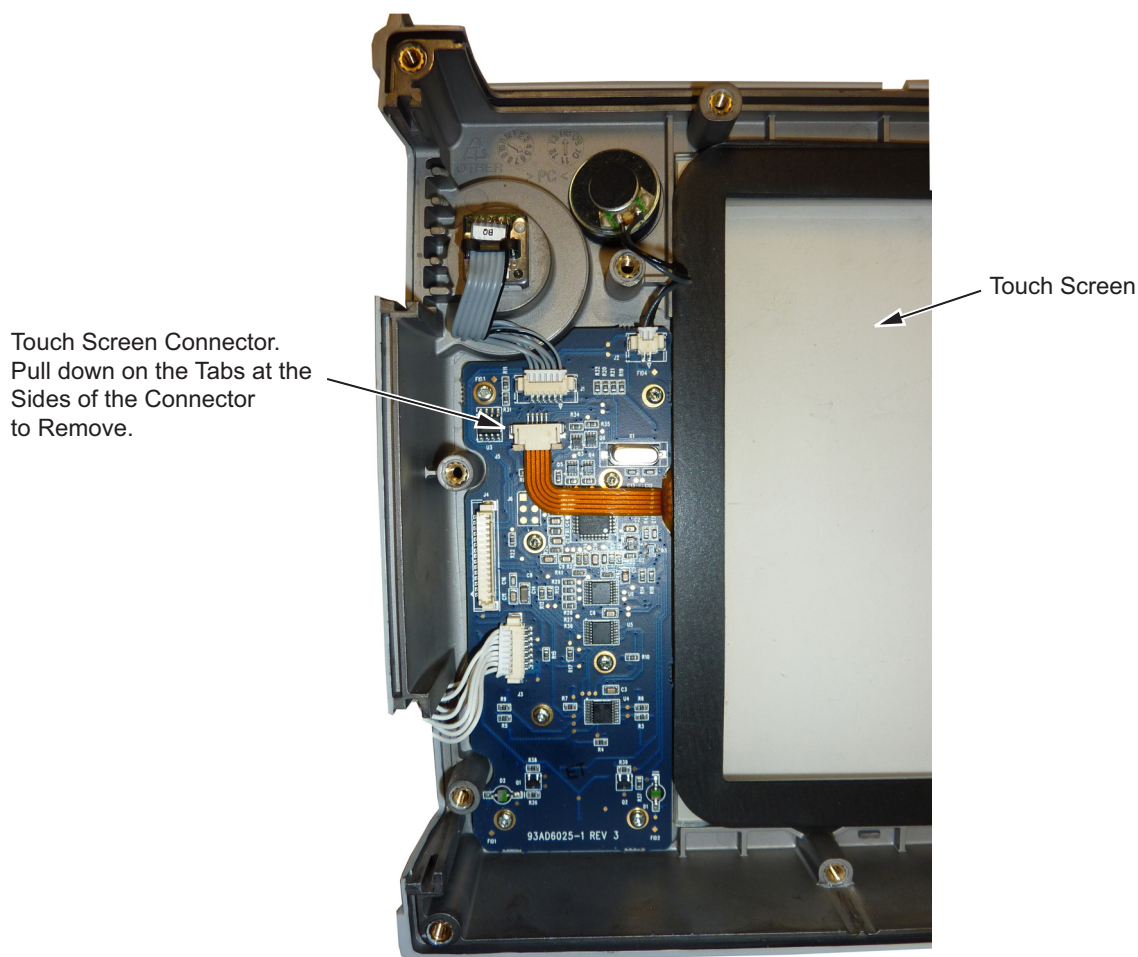

Figure 7-18. Replacing the Touchscreen
4. Remove the touchscreen flex circuit connector from the Keypad PCB by pulling the tabs on each side of the connector away from the connector and in the direction of the flex circuit. Refer to Figure 7-18.